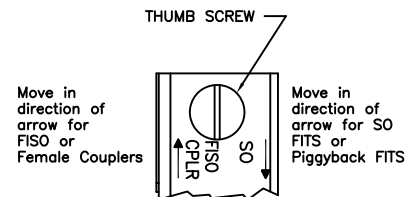

FIGURE 2
1. Set the locator for the SO FIT, piggyback FIT, FISO and female coupler by loosening the knurled thumbscrew $1/4$ -turn. Slide the tab plate in the direction of the arrow stamped on the locator body to the end of its travel. Tighten the knurled thumbscrew securely (See Figure 2).